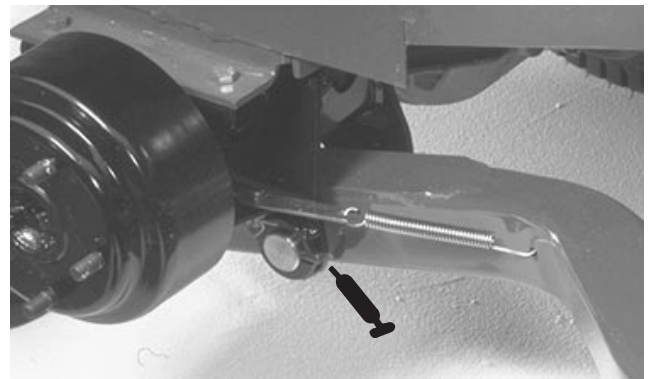

Figure 30
- Lift arm pivot bushings (Fig. 30)